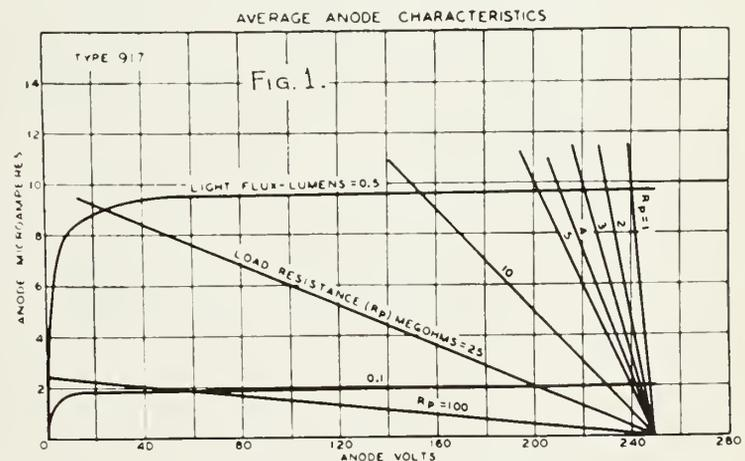

FIG. 1
**VACUUM CELLS.** The sensitivity of a typical vacuum cell with change of anode voltage and light flux is shown in Fig. 1. It should be noted that in the vacuum cell, as long as sufficient anode voltage is maintained to keep the operating range above the shoulder of the curves, that the cell is perfectly linear with the light flux changes. As we will see later, this is not strictly true in the case of the gas-filled tube.
Fig. 3 shows the sensitivity curves for a typical gas cell as compared to Fig. 1 of the vacuum cell. It should be noted that instead of flattening out at anode voltages above about thirty volts, the curves turn upward again, thereby giving greater sensitivity to the gas type cell. The micro-ampere per lumen sensitivity of this tube is about three times that of the previous vacuum cell.